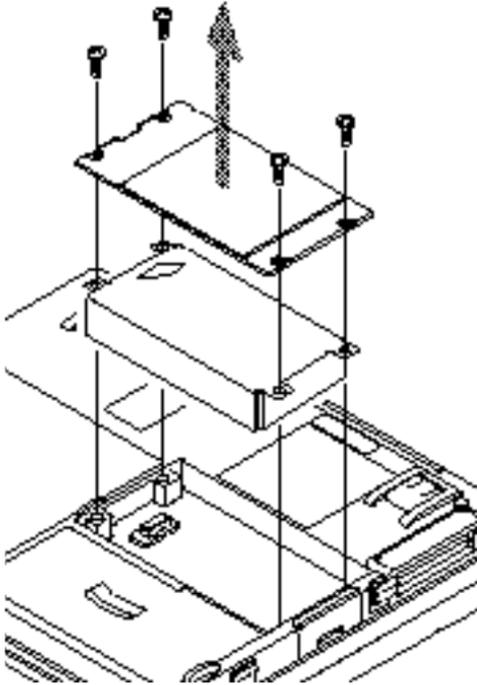

Figure 5-2 Installing and Removing the Internal Hard Drive
2. Remove the four screws from the Hard Drive Chamber in the bottom panel of your notebook. (Figure 5-2.)
1. Carefully plug in the connector to the new hard drive being sure to align the connector. (Figure 5-2.) Make sure it seats completely.